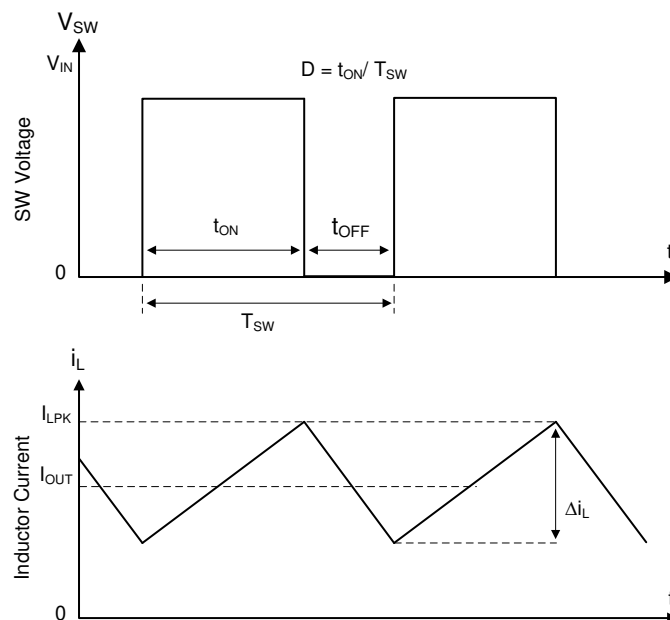

图 7-1. SW Node and Inductor Current Waveforms in Continuous Conduction Mode (CCM)
The following operation description of the TPS563300 refers to the functional block diagram and to the waveforms in Figure 7-1. The TPS563300 is a synchronous buck converter with integrated high-side (HS) and low-side (LS) MOSFETs (synchronous rectifier). The TPS563300 supplies a regulated output voltage by turning on the HS and LS NMOS switches with controlled duty cycle. During high-side switch on time, the SW pin voltage swings up to approximately V_{IN} , and the inductor current, i_L , increases with linear slope $(V_{IN} - V_{OUT}) / L$. When the HS switch is turned off by the control logic, the LS switch is turned on after an anti-shoot-through dead time. Inductor current discharges through the low-side switch with a slope of $-V_{OUT} / L$. The control parameter of a buck converter is defined as Duty Cycle $D = t_{ON} / t_{SW}$, where t_{ON} is the high-side switch on time and t_{SW} is the switching period. The converter control loop maintains a constant output voltage by adjusting the duty cycle D . In an ideal buck converter where losses are ignored, D is proportional to the output voltage and inversely proportional to the input voltage: $D = V_{OUT} / V_{IN}$.